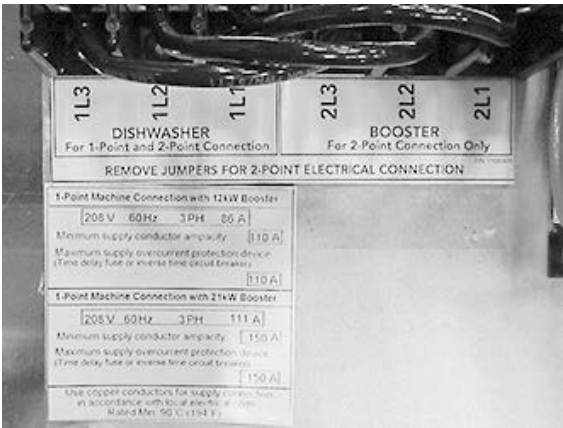

Fig.13 - 1-point connection data plate
2. Cover the existing 1-point connection data plate, (Fig. 13), with the 2-point connection data plate, (Fig. 14), stowed in the plastic bag, (Fig. 15), next to the input terminal block.